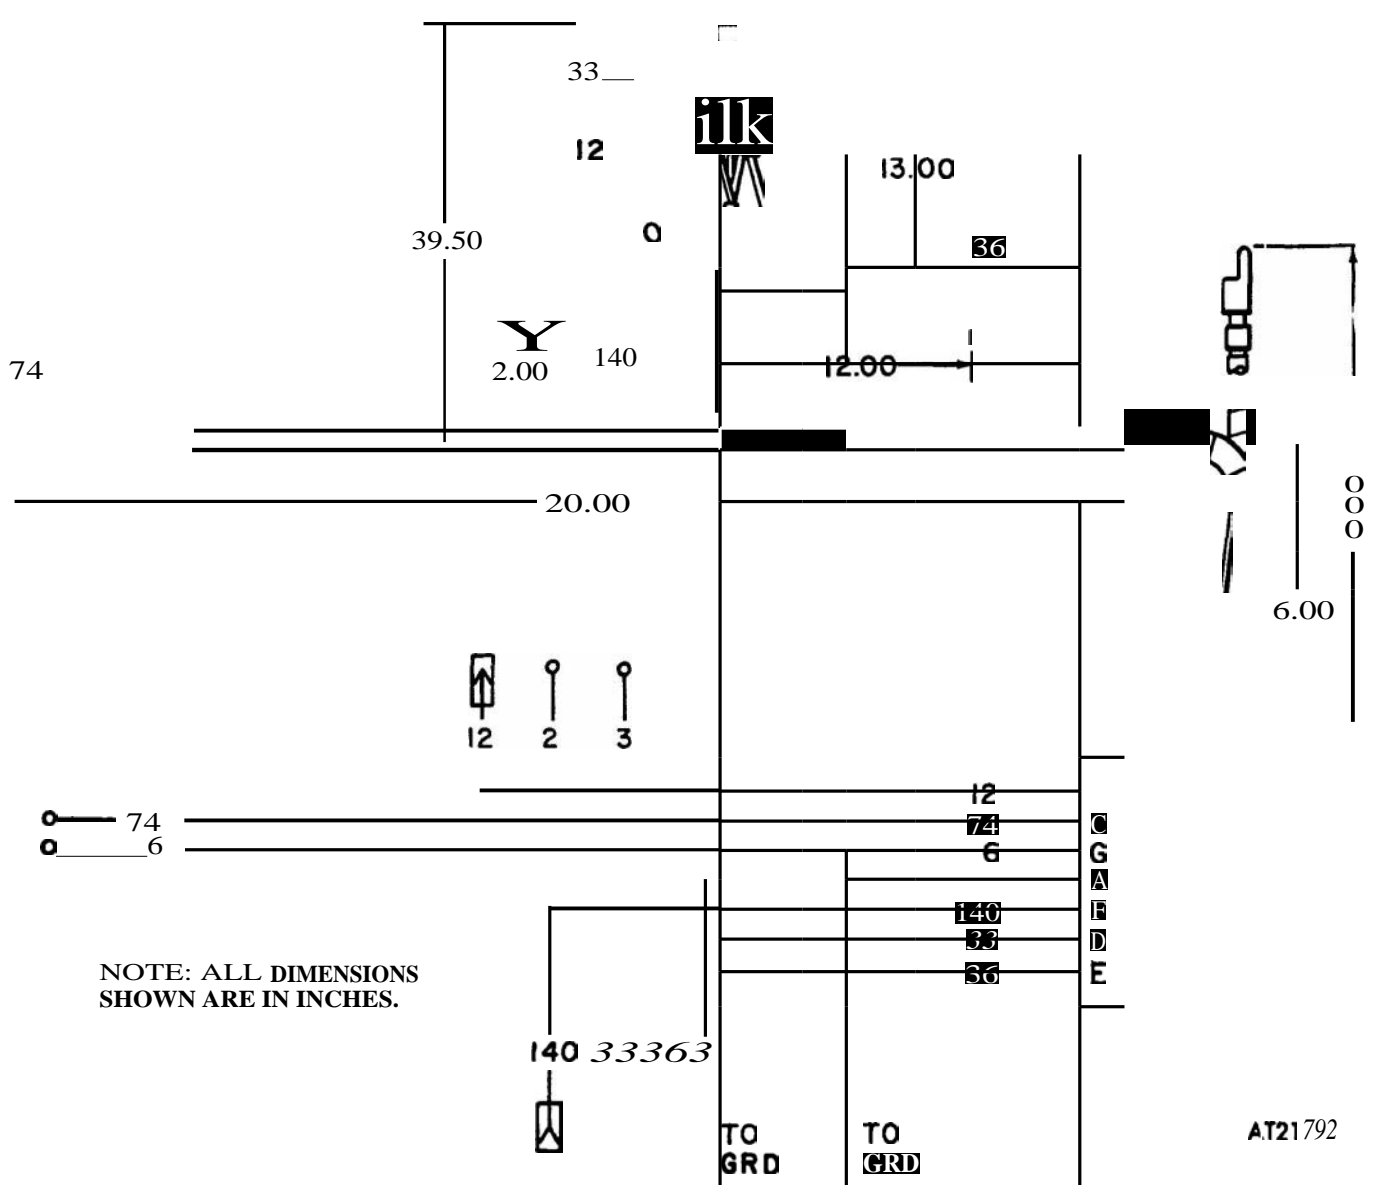

Figure 2-139. Engine harness.
(4) Disconnect leads from terminal posts by removing two screws, washers, and nuts. Separate connectors on remaining wire.
(5) Disconnect harness from alternator by removing two screws, washers, and cable clamp.
(6) Disconnect starter motor solenoid terminals by removing two nuts and washers.
(7) Remove ground wire terminal from engine block by removing bolt and washer.
(8) Disconnect oil pressure transmitter connector.
(9) Disconnect temperature transmitter connector.
(10) Disconnect cold start primer pump connector.
(11) Remove harness from engine assembly by removing clamp, screw, and lock washer.
(12) Remove engine harness receptacle from mounting bracket by removing four screws, lock washers, and nuts.
(13) Remove harness from tractor.
b. *Repairs.* Repairs shall be made in accordance with TB ORD 650 (fig 2-139).